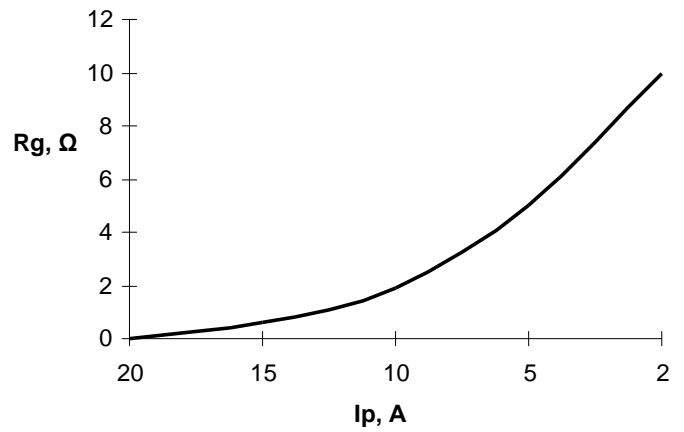

Figure 8 – Output pulse current versus gate resistor nominal
Gate resistors (Ron1, Ron2, Roff1 and Roff2) are necessary for maximum pulse current decrease. Resistor installing with every nominal is allowed, including 0 Ω . Resistor installing with different nominal is also allowed; for instance, in order to increase turn-on time of controlled transistor purposely to decrease voltage amplitude of inductive kicks. Output pulse current versus gate resistor nominal is shown at Figure 8.
- set up output pulse current by resistor Rg on(off) in compliance with Figure 8.